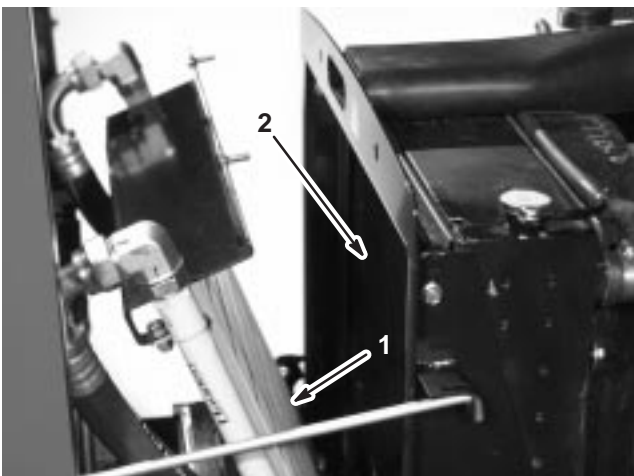

Figure 54
3. Pivot the oil cooler rearward. Clean both sides of the oil cooler and radiator area (Fig. 54) thoroughly with compressed air.